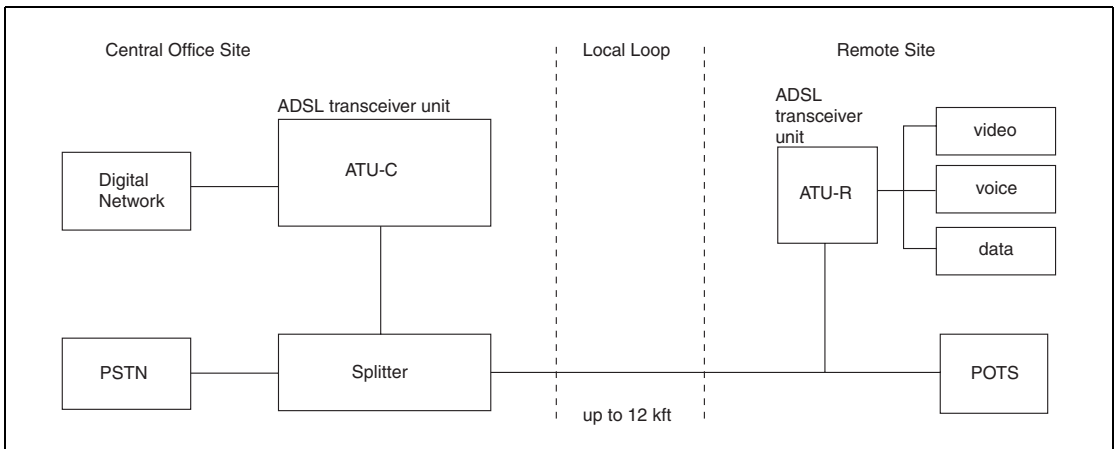
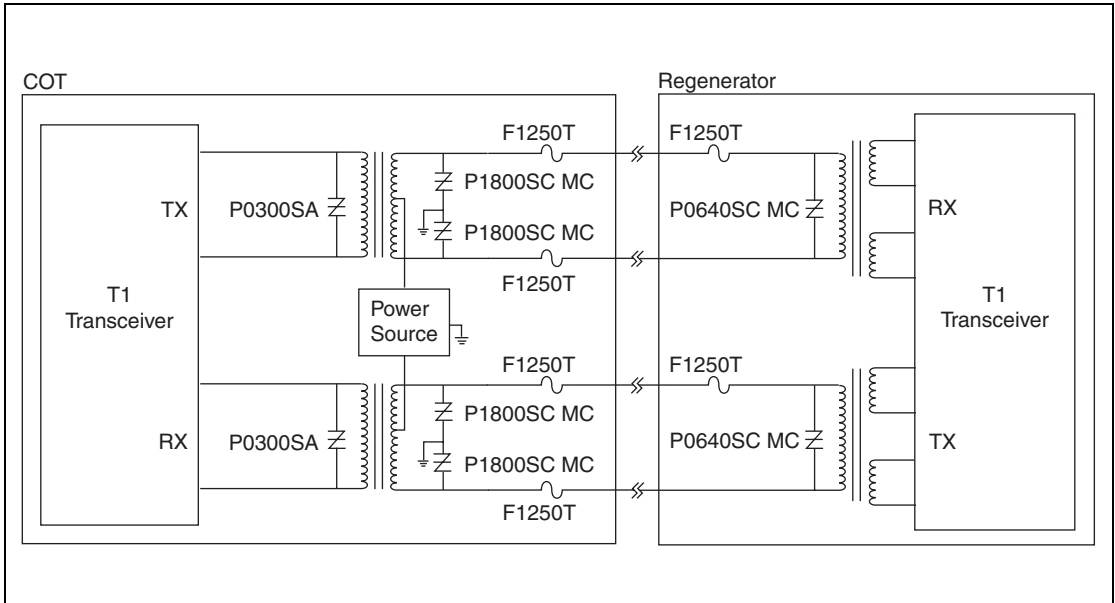

Figure 3.7 ADSL Overview
Figure 3.17 T1/E1 Protection
Transmission equipment should be protected against overvoltages that can exceed 2500 V and surge currents up to 500 A. In Figure 3.7 through Figure 3.17, *SIDACtor* devices were chosen because their associated peak pulse current (I_{PP}) rating is sufficient to withstand the lightning immunity tests of GR 1089 without the additional use of series line impedance. Likewise, the fuse shown in Figure 3.7 through Figure 3.17 was chosen because the amps^2time (I^2t) rating is sufficient to withstand the lightning immunity tests of GR 1089, but low enough to pass GR 1089 current limiting protector test and power cross conditions (both first and second levels).
Asymmetric Digital Subscriber Lines (ADSLs) employ transmission rates up to 6.144 Mbps from the Central Office Terminal (COT) to the Remote Terminal (RT) and up to 640 kbps from the RT to the COT at distances up to 12,000 feet. (Figure 3.7)
Longitudinal protection is required at the Central Office Terminal (COT) interface because of the ground connection used with loop powering. (Figure 3.17) Two P1800SC MC *SIDACtor* devices provide overvoltage protection and two F1250T *TeleLink* fuses (one on Tip, one on Ring) provide overcurrent protection. The P1800SC MC device is chosen because its V_{DRM} is compliant with TIA-968 regulations, Section 4.4.5.2, “Connections with protection paths to ground.” These regulations state:
For the transceiver side of the coupling transformer, additional overvoltage protection is shown in Figure 3.17 using the P0300SA *SIDACTor* device. When an earth ground connection is not used, only metallic protection is required. Metallic protection is satisfied using a single P0640SC MC *SIDACTor* device across Tip and Ring and a single F1250T *TeleLink* fuse on either Tip or Ring.